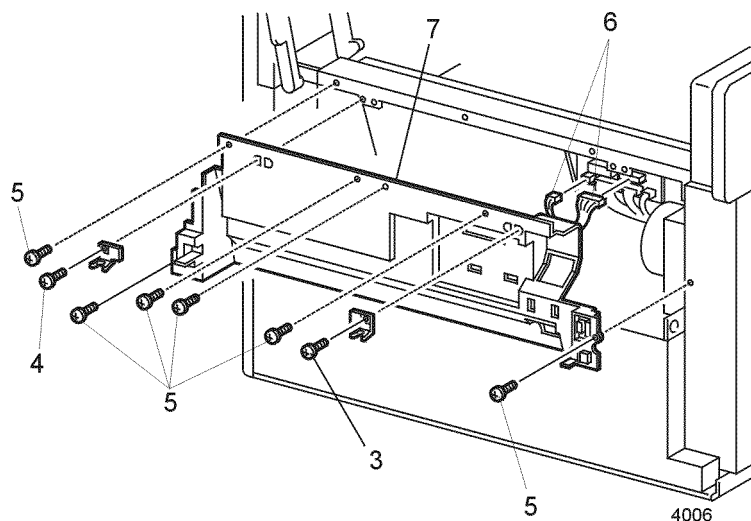

Figure 1 HVPS Cover
5. Remove the six screws that secure the HVPS Cover to the printer (Figure 1).
6. Lower the cover and disconnect P/J502 and P/J505 from the Duplex Interface PWB (Figure 1).
7. Remove the HVPS Cover (Figure 1).